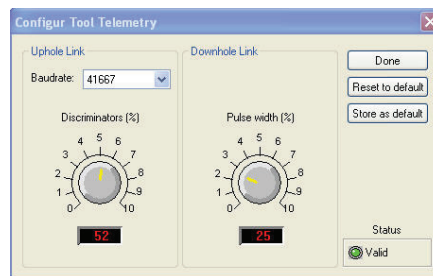
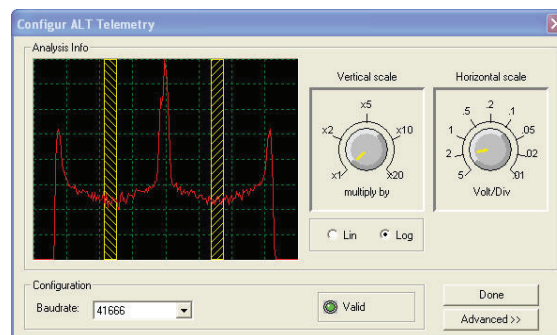

Figure 6-1 Tool communication settings - ALTLog
Figure 6-2 Tool communication settings - Matrix
- In the **Communication** panel, select **Settings**. Check **baud rate** is set to **41666** and **communication status** is **valid** (Figure 6-1 or Figure 6-2).